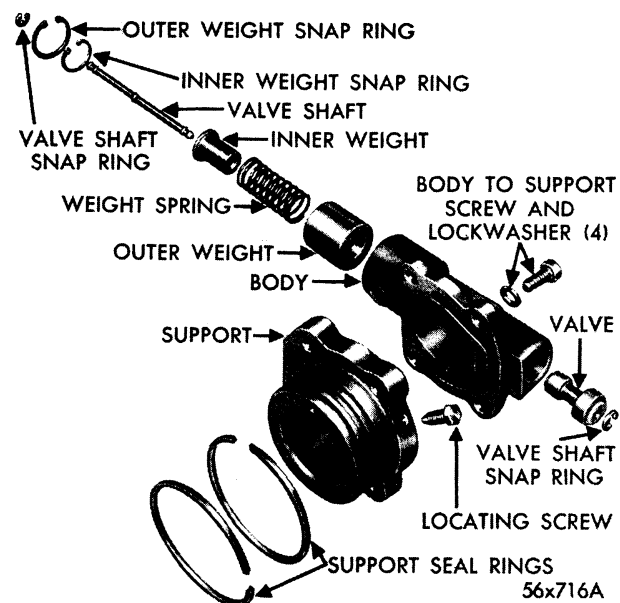

Fig. 73—Governor Assembly (Disassembled View)
60. GOVERNOR DISASSEMBLY AND INSPECTION (Fig. 73)